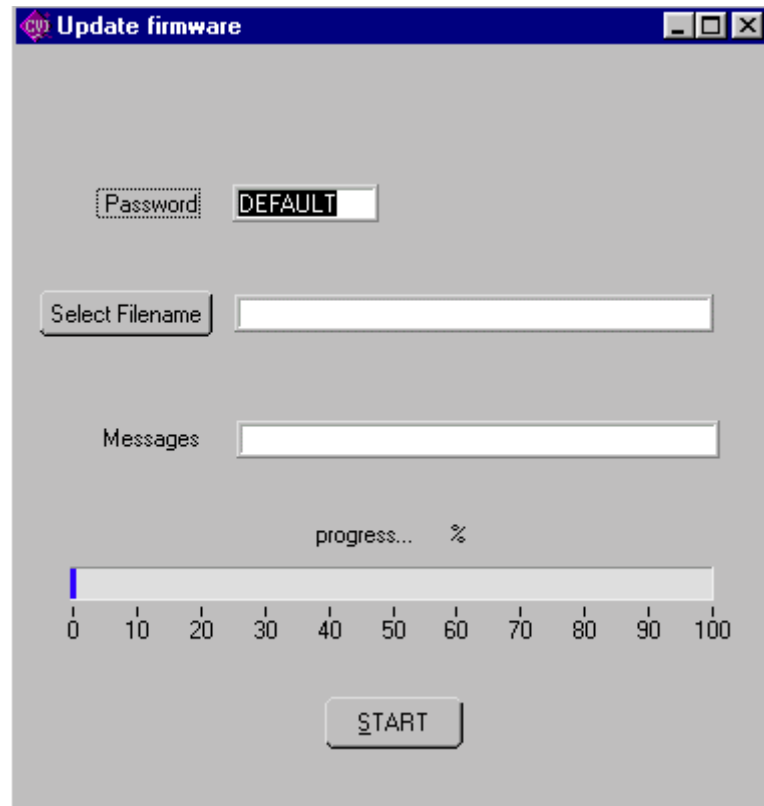

FIGURE 17. UPDATE FIRMWARE WINDOW
2.2.15 The Update Firmware **Open** button opens the Update Firmware window (Figure 17) which allows the unit's firmware to be updated with updated information supplied by Kepco.